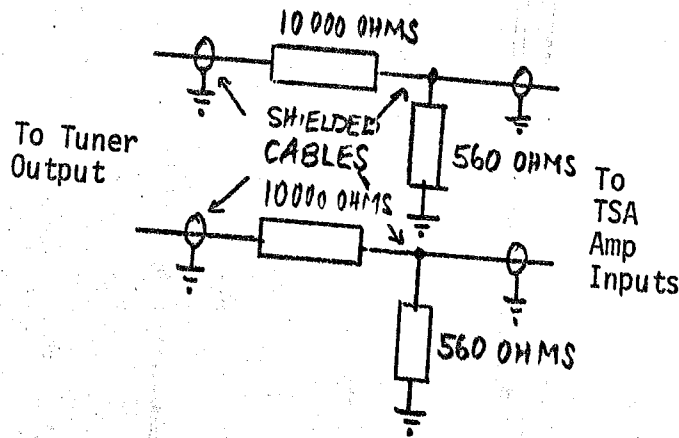

FIG. 7
STEP (2) Plug amplifier into "limiter" as shown in Figure 6. If there is no bright glow in the "limiter" bulb, a signal can now be applied to the input of the amplifier. The tuner output of a conventional receiver will work well if hooked into the amplifier through a network as shown in Figure 7. Note that an initial "flash" of the "limiter" bulb is normal. This indicates the charging of the electrolytic filter capacitors of this amp.
This procedure is the same as for the TSA series amplifiers and all the statements made as to amplifier loading apply here as well. The attenuator in Figure 7 can also be used on SHP amplifiers and the time required for amplifier stabilization is also the same.